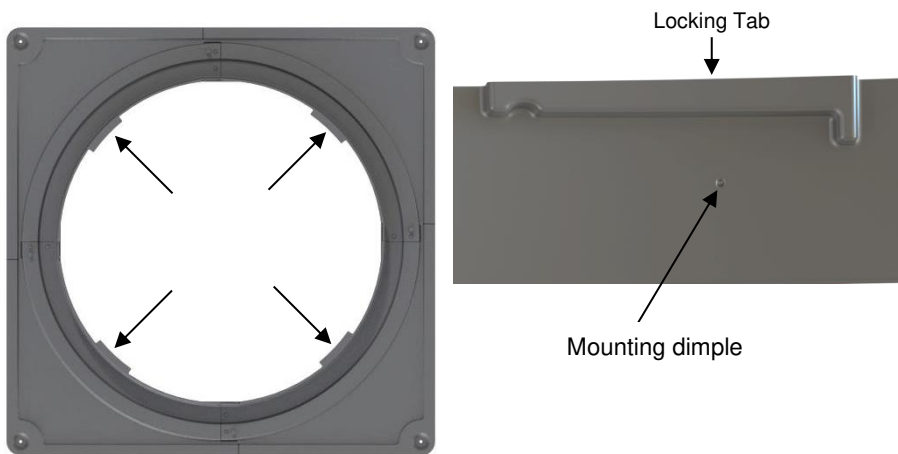

Figure 9: Locate four mounting dimples
- 5.) Locate the four (4) mounting dimples on the inside perimeter of the base flange (Fig.9).